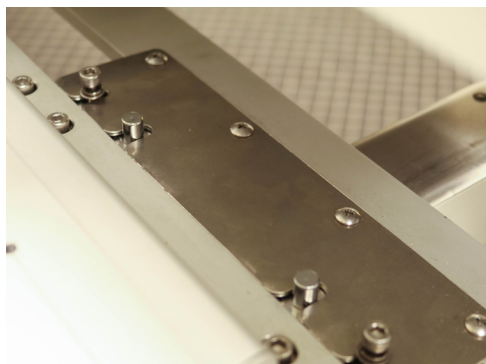

Figure 40
2. Slide the bracket onto the pantograph rail, lining up the slots on the ends of the bracket with the hex screws and the slots on the inside of the bracket with the support pins. **See Figure 40.**